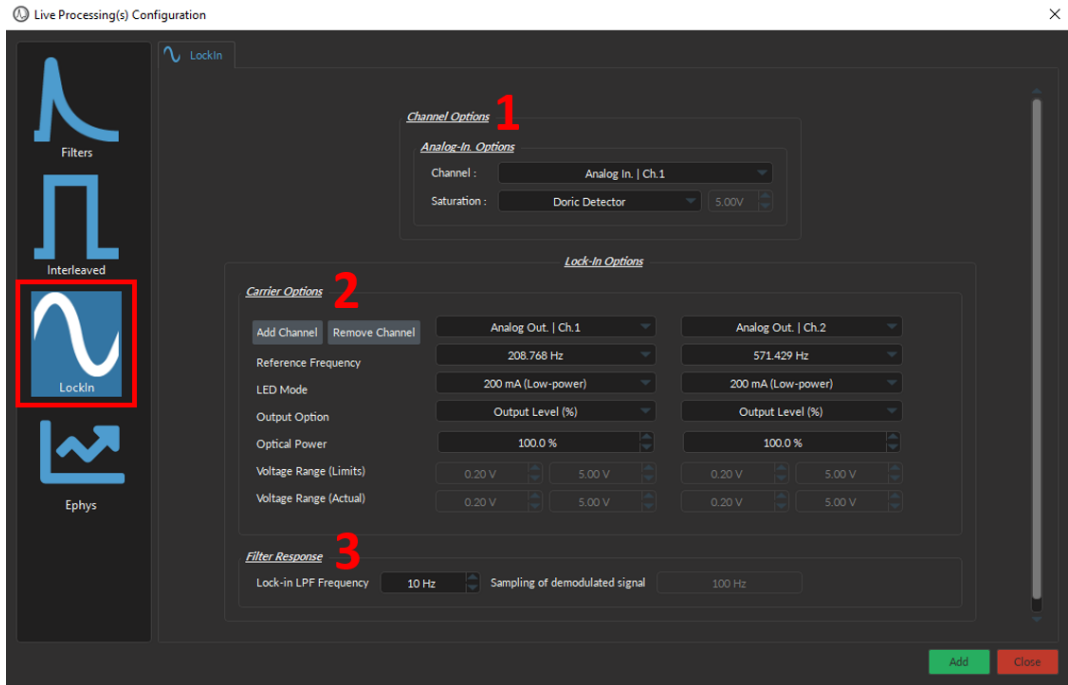

Figure 11.82: Live Processing, LockIn
To create a **LockIn** preset configuration, specify the following parameters (Fig. 11.82):
1. The **Channel Options** (Fig. 11.82, 1) specifies the Analog Input-related information required for the **LockIn** present configuration, and includes the following parameters:
2. The **Carrier Options** (Fig. 11.82, 2) specifies the **Analog Output** dependencies required for the **Lock-In** preset configuration, and includes the following parameters:
3. The **Filter Response** (Fig. 11.82, 3) contains the following parameters: